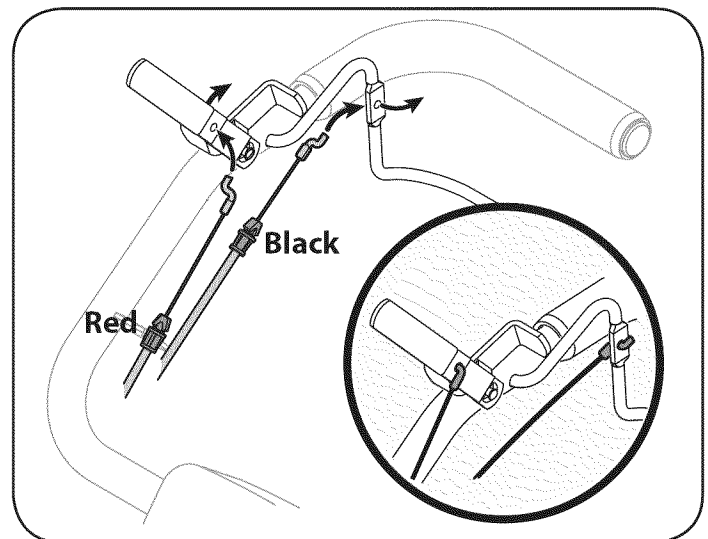

Figure 2
2. Connect the reverse cable (Red) to the reverse cable control by feeding the z-hook through the hole on the reverse cable control from the inside towards the outside. See Figure 2.
3. Connect the forward drive cable (Black) to the clutch bail by feeding the z-hook through the hole on the clutch bail from the outside towards the inside. See Figure 2.